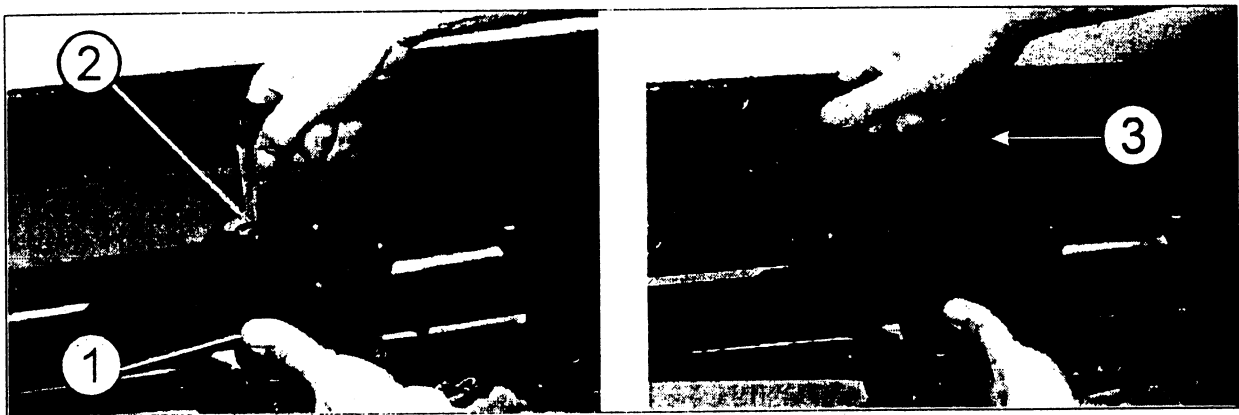

Fig 1-12. Removing the barrel.
(1) **FIRST**, remove the barrel (see fig 1-12).
- (a) Depress and hold the barrel locking latch (1).
- (b) At the same time, rotate the barrel carrying handle assembly to the (2) upright position.
- (c) Remove barrel by pulling straight out (3).